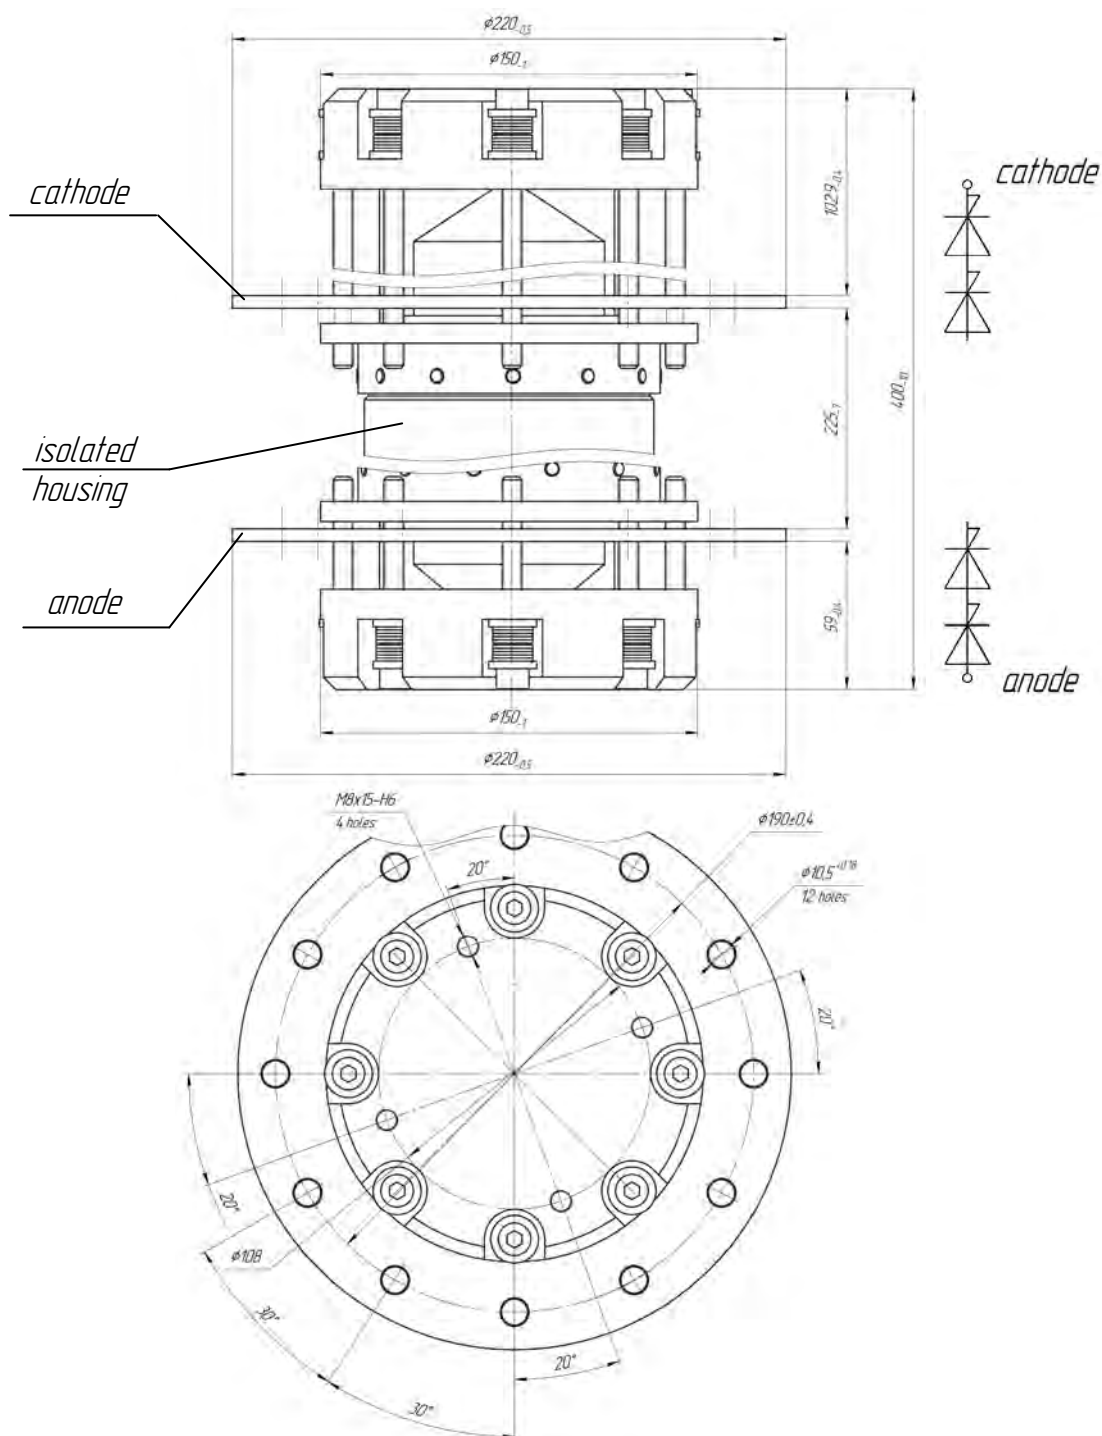

Fig. 2. RSD-based pulse current commutator up to 300 kA (design variant 1)
1.3.2 Fig. 2 presents design example of high voltage RSD-DS, design variant 1, for commutation of high current pulses in energy storage devices, for indoor operation by temperature +10 - +35°C and relative humidity up to 80% (T = 25°C).